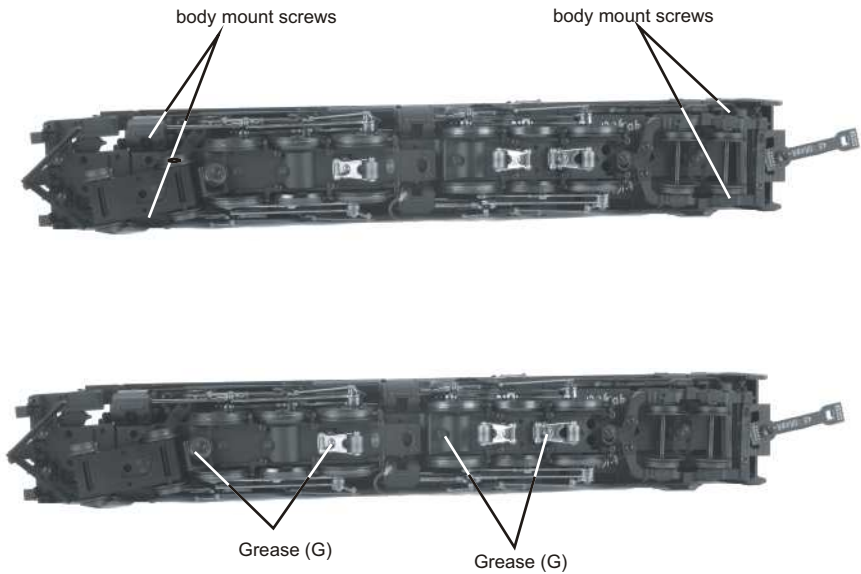

Figure 6: Removing the Body and Lubricating the grease points
2. Remove the Phillips screws (marked “GREASE”) located at each set of wheels and under pick up rollers (Fig. 6).
You should also grease the leading and trailing locomotive truck tongues to enhance their ability to slide on the chassis. Follow the grease points shown on Fig. 6.